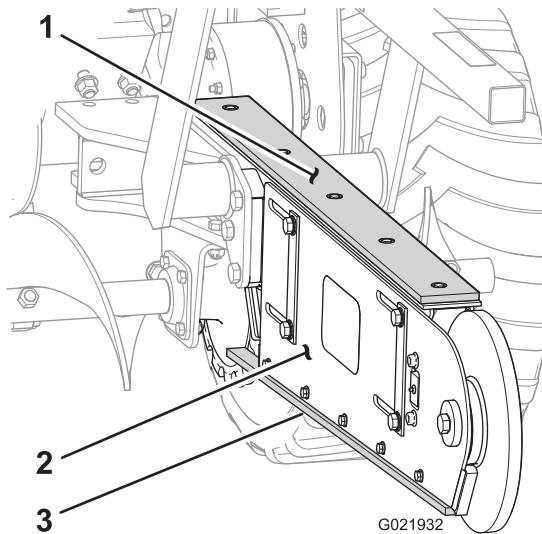

Figure 37
1. Lift the chain at the wear strip at the top of the boom, and check the wear strip for signs of damage or excessive wear (Figure 37).
2. Check the wear channel at the bottom of the boom for signs of damage and excessive wear (Figure 37).